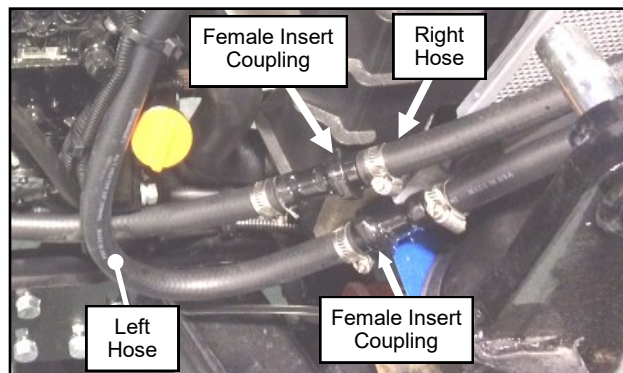

Fig. 17.3 (Heater Hose Disconnects, Outside of Cab)
- 17.3 Slide 1" hose clamp and Female Insert In-Line Coupling onto the right hose outside the cab and tighten down hose clamp onto hose/barb of in-line coupling. See figure 17.3
- 17.4 Slide 1" hose clamp and Male Insert In-Line Coupling onto the left hose outside the cab and tighten down hose clamp onto hose/barb of in-line coupling. See figure 17.3
- 17.5 Connect the mating in-line couplings to the previously installed couplings. Cut 51 inches of heater hose, install hose and 1" hose clamp onto the right side hose coupling and run hose towards the front of the vehicle using figures 17.3 and 17.6 as reference. With remaining heater hose, install hose and 1" hose clamp onto the left side hose coupling. Again using figures 17.3 and 17.6 for suggested routing.